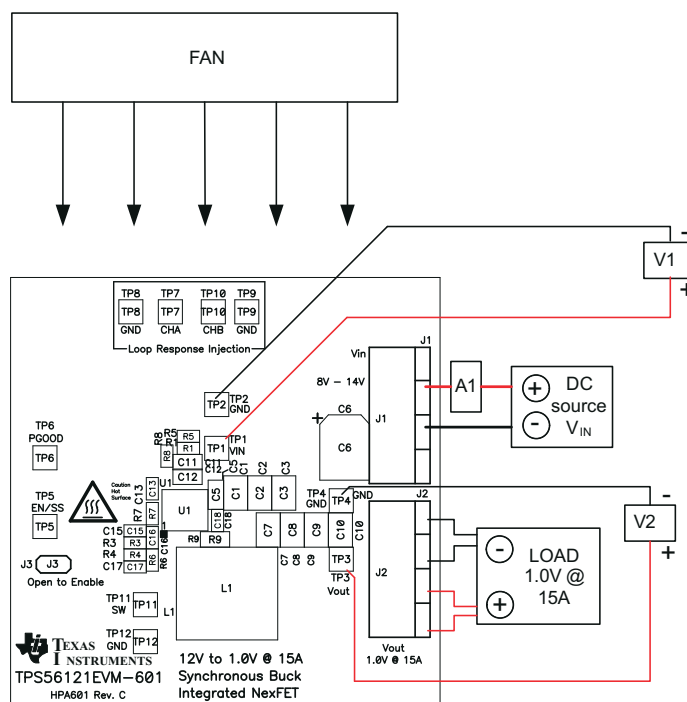

Figure 5-1. TPS56121EVM-601 Recommended Test Setup
Figure 5-1 is the recommended test setup to evaluate the TPS56121EVM-601.
2. Prior to connecting the DC input source, VIN, it is advisable to limit the source current from VIN to 3.0 A maximum. Make sure VIN is initially set to 0 V and connected as shown in Figure 5-1.
3. Connect VIN to J1 as shown in Figure 5-1.
4. Connect ammeter A1 between VIN and J1 as shown in Figure 5-1.
5. Connect voltmeter V1 to TP1 and TP2 as shown in Figure 5-1.
6. Connect voltmeter V2 to TP3 and TP4 as shown in Figure 5-1.
7. Place the fan as shown in Figure 5-1 and turn it on, ensuring that the air blows directly across the evaluation module.
1. Set up the EVM as described in Section 5.3 and Figure 5-1.